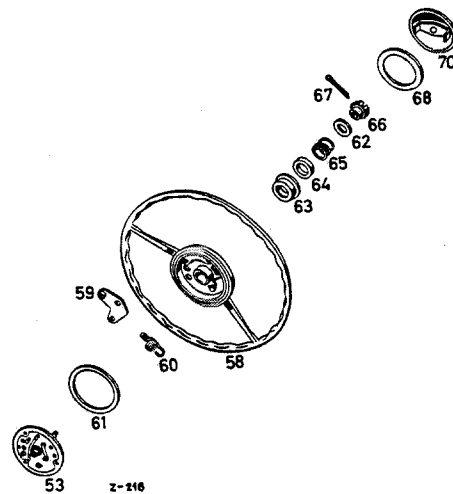

Fig. L 2/5
13. Insert the brass washer (61) in the steering wheel and install the horn ring (58); when doing this, lift the notch plate (59) a little. Then install the contact cup (63), insulating plate (64), compression spring (65) and contact disk (62), and screw on the adjusting nut (66) (Fig. L 2/5).